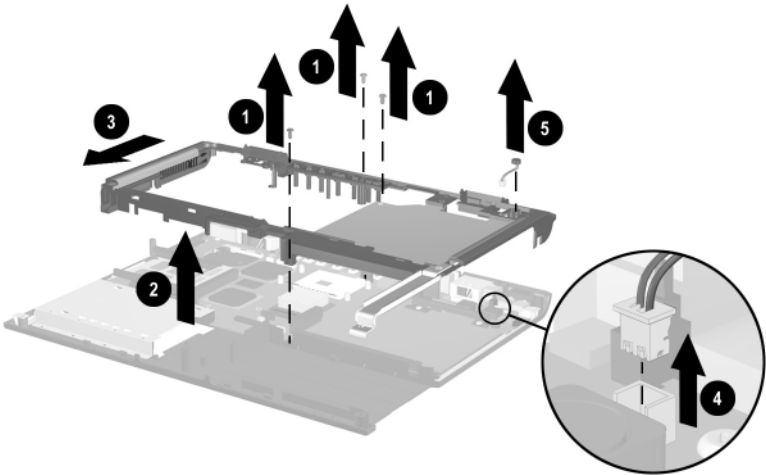

Figure 5-40. Removing the Top Cover and Microphone
5. Remove the three TM2.5 × 5.0 screws ❶ that secure the top cover to the base enclosure (Figure 5-40).
6. Lift the top cover straight up ❷ approximately one inch, then slide it forward ❸ until the microphone cable ❹ is exposed.
7. Disconnect the microphone cable ❺ from the system board.
8. Remove the microphone ❻ from the top cover.